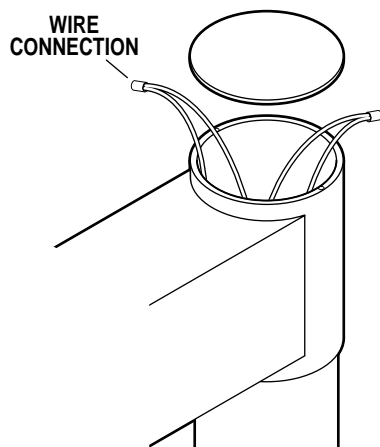

Figure 10. Top Cover Removal
- a. Remove top cover from VST receptacle and test bulb voltage at the wire connections. See figure 10.